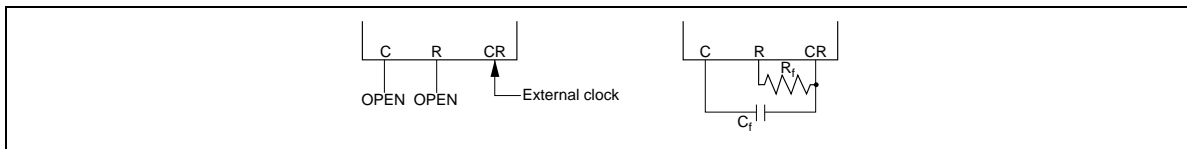
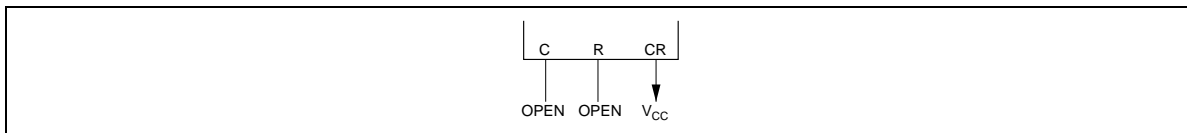

Figure 4 Oscillator Connection in Master Mode
Figure 5 Oscillator Connection in Slave Mode
1. **CR Oscillator:** The CR oscillator generates the HD66503 operation clock. During master mode, since the operation clock is needed, connect oscillation resistor R_f with oscillation capacitor C_f as follows. When the external clock is used, input external clock to pin CR and open pins C and R (Figure 4). When using the HD66503 during slave mode, the operation clock will not be needed; therefore, connect pin CR to V_{cc} and open pins C and R (Figure 5).